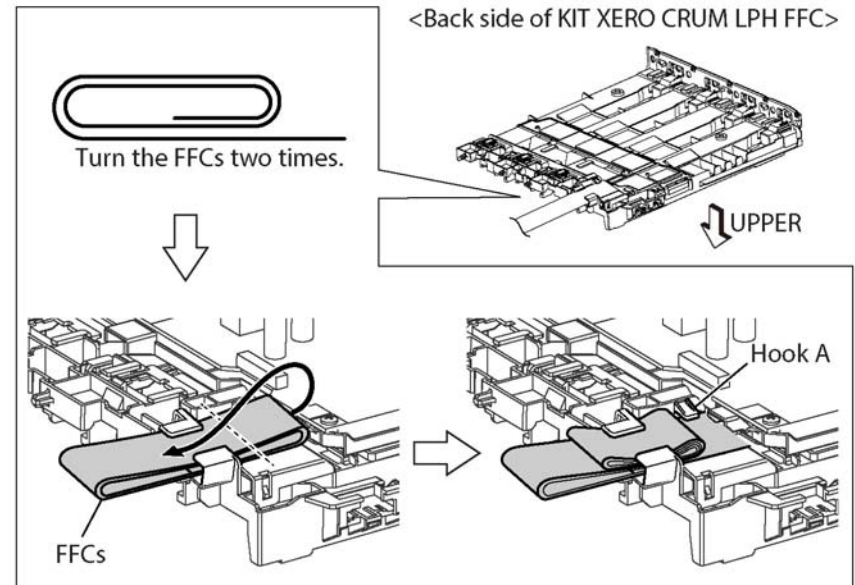

Figure 6 Install the LPH xerographic CRUM
1. Fold the FFCs as shown in Figure 6.